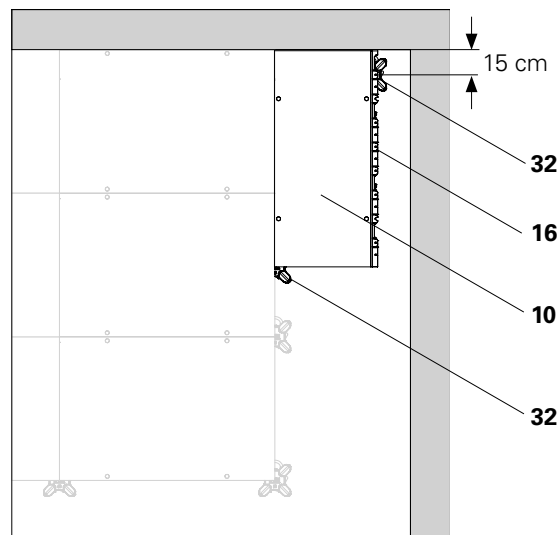

Fig. D3.02a
3. Place the slab prop with DFH prop-head (32) across the edge of the panel in an inclined position from the inside and align outwards. The distance from the wall is 15 cm. (Fig. D3.02a)
4. Remove the shuttering aid (37).